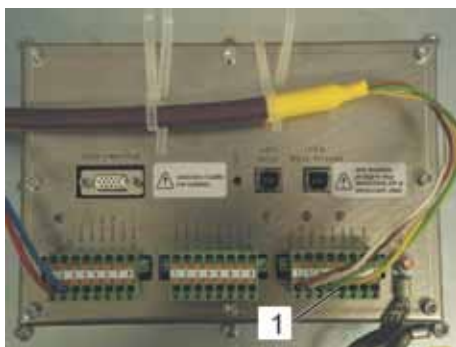

Fig. 100: Indication unit
1. Check the connection of the bus cables (Fig. 100/1) from X13/1 to X13/4 on the back of the Indication unit.